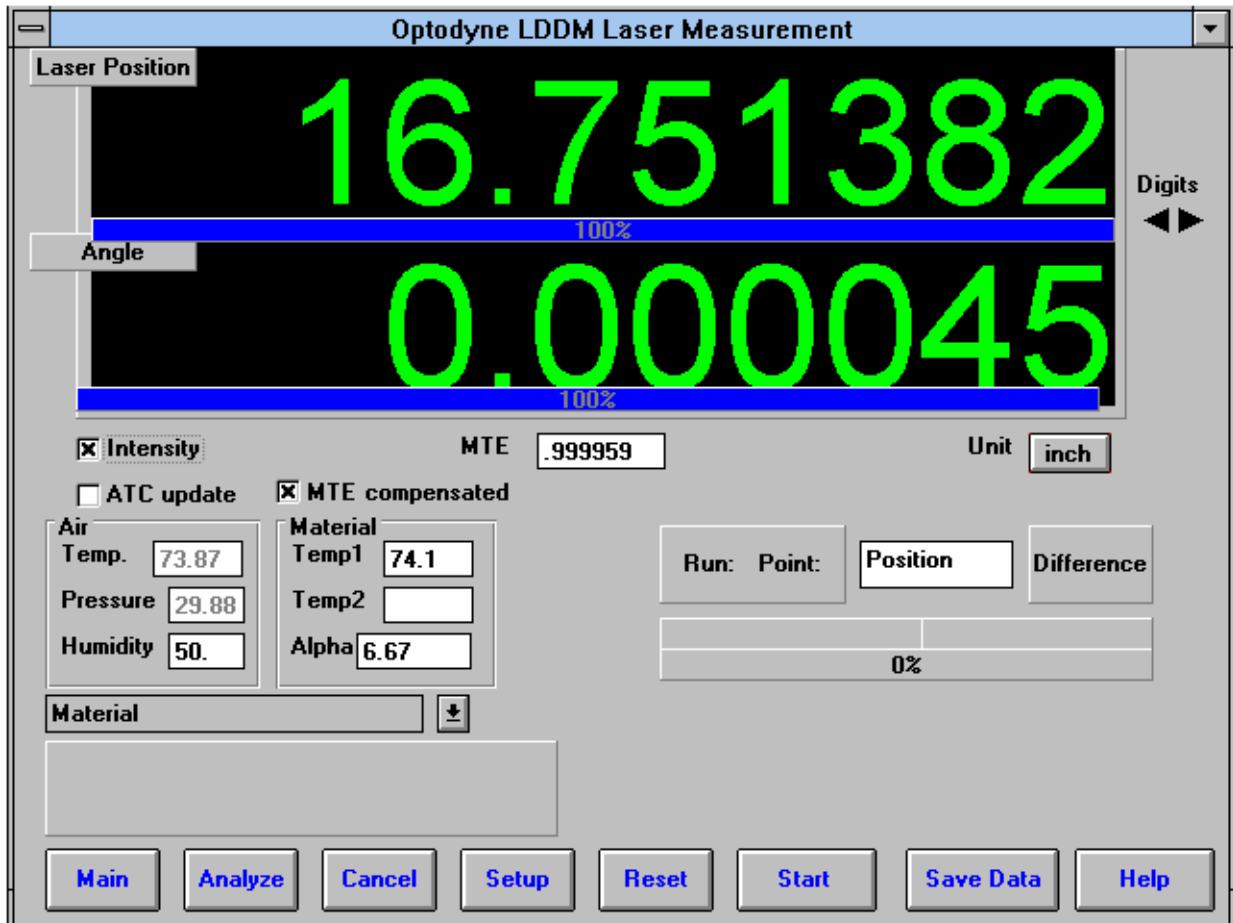

Fig. 5-1 Straightness Measurement Main Display
5.1 Straightness Measurement Main Display (Fig. 5-1)
Straightness Measurement Main Display (See Fig. 5-1):